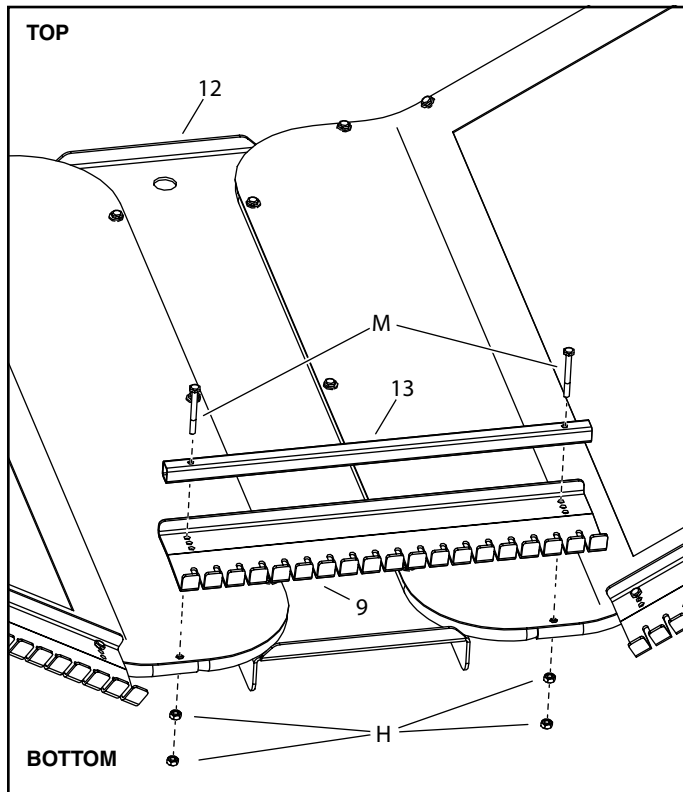

FIGURE 13
STEP 13: (SEE FIGURE 13)
- Place the rake brace (13) on the leaf rake (9), aligned to the top of the leaf rake.
- Attach the leaf rake (9) and rake brace (13) to the bottom of the bulkhead (12) using two hex bolts (M), and hex nuts (H) and tighten.
- Add a second hex nut (H) to each hex bolt and tighten.